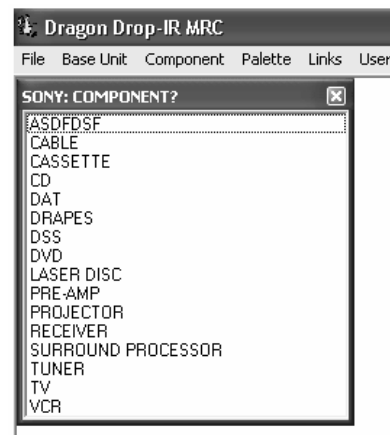

Figure 18
3. Locate and Select (single click) the type of COMPONENT as shown in **Figure 18** (DVD, SAT etc) (See later section for ‘Adding Components and Functions’).